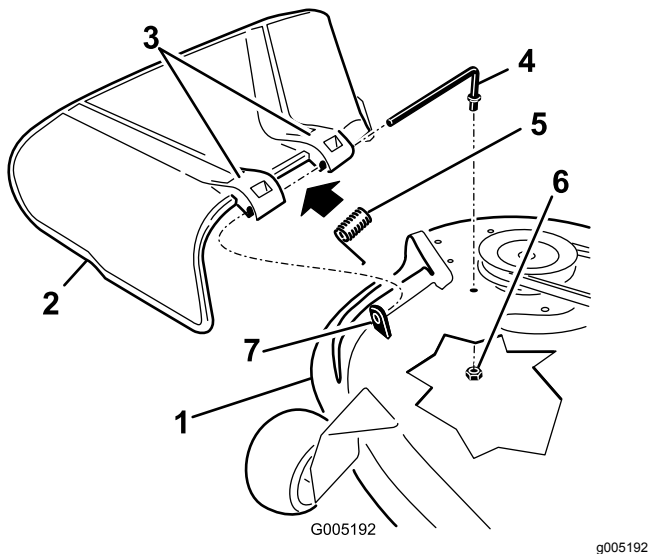

Figure 59
1. Locate items shown in Figure 59.
Slide rod through second grass deflector bracket (Figure 59).
7. Insert rod at front of grass deflector into short stand-off on deck. Secure rear end of rod into the mower with a nut (3/8 inch) (Figure 59).
2. Remove the nut (3/8 inch) from the rod under the mower (Figure 59).
3. Slide the rod out of the short stand-off, spring, and grass deflector (Figure 59). Remove the damaged or worn grass deflector.
4. Replace the grass deflector (Figure 59).